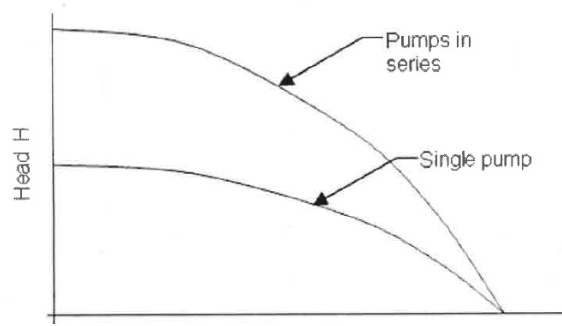

Figure 4. Theoretical Comparison of Head to Flow Rate: Single vs. Series
- Verify if you are able to reproduce the theoretical comparisons shown in Figure 4 & 5. As well as the Equation relationships shown in Equations (3) and (4).